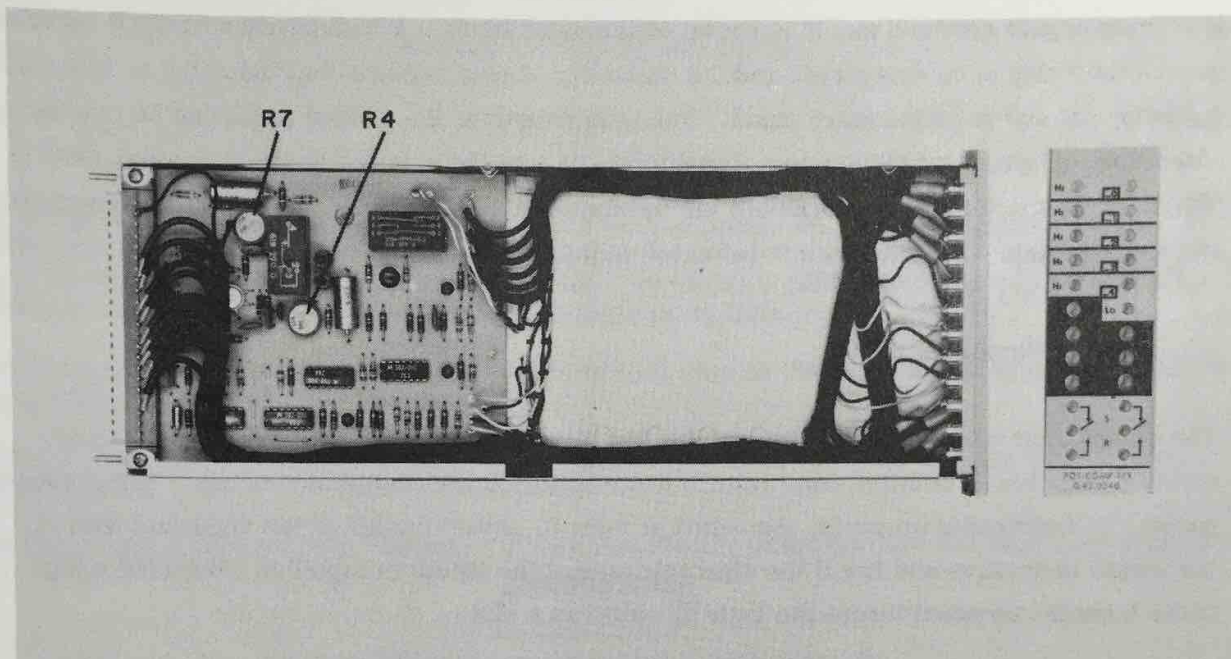

Figure 1.9. Comparator Adjustment Controls
4. With FR in the CB (energized) position, adjust R7 (Figure 1.9) to approximately mid-range, and adjust R4 until the output of integrator 2 nulls. (This reading is 100 times the switching center value.)